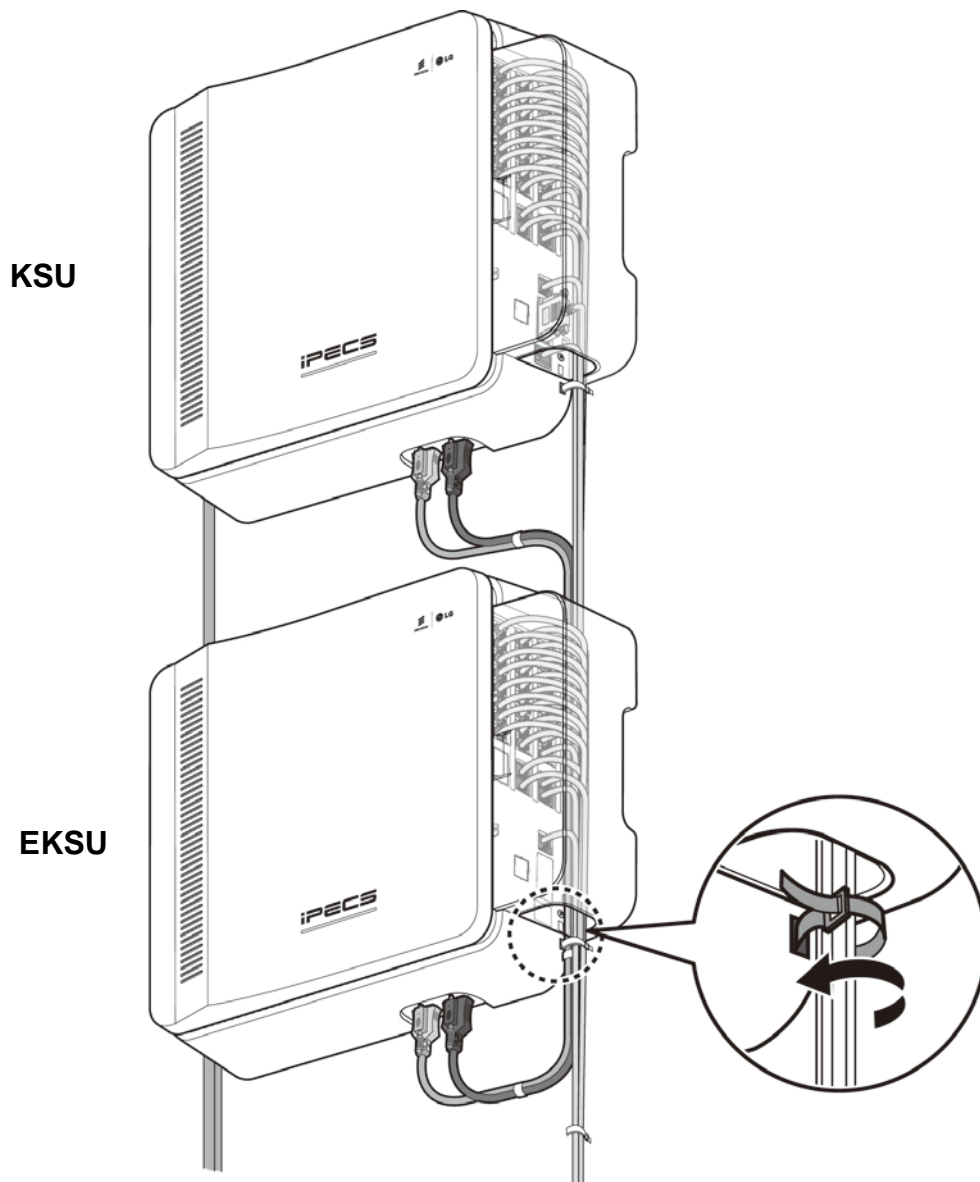

Figure 6.9.1-1 Dressing the Wall Mount Wiring
3. Using the supplied cable ties, tie all wiring to the slot at the bottom-right side of the KSUs as shown in Figure 6.9.1-1.